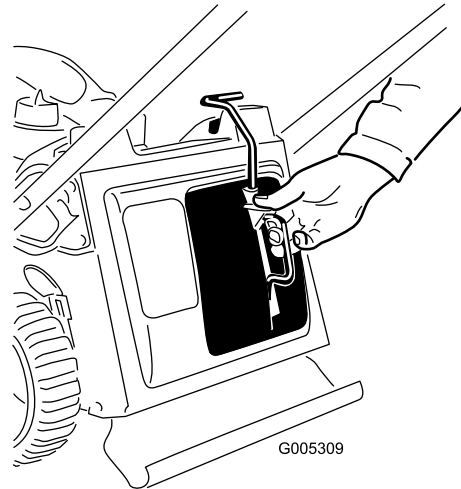

Figure 27
1. Remove the recycle plug (Figure 27).